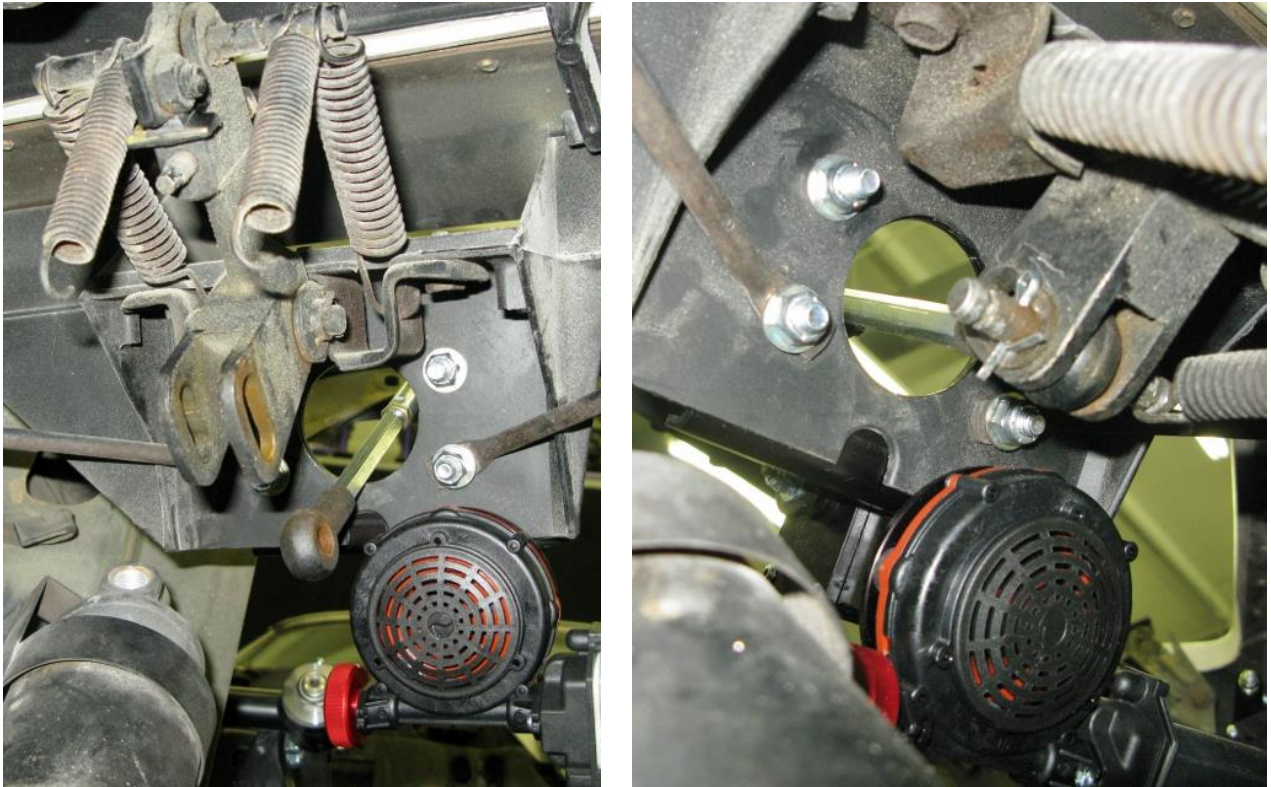

Figure 16 - Install Attachment Pin
13. Adjust the red knob on the actuator if necessary so the clevis lines up with the mount to install the pivot pin that was removed in step 4. Once the pivot pin is installed with the bushings in place, position the washer over the cotter pin side of the pin and install the provided $7/64"$ x $3/4"$ L cotter pin. Bend the 2 halves of the cotter pin around the pivot pin in opposite directions to keep it from falling out of the pin (Figure 16).